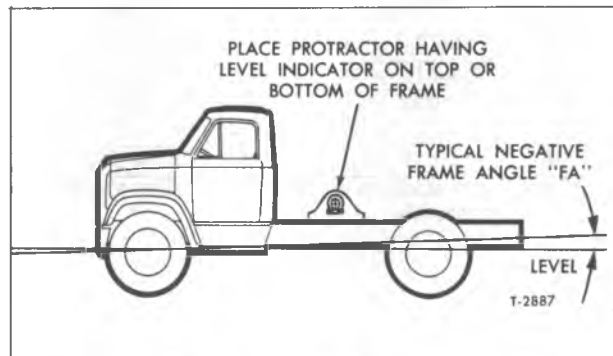

Figure 2—Method of Checking Frame Angle
**IMPORTANT:** Caster, camber, and toe-in dimensions are for vehicle carrying its design load whereby the frame in most instances would be level. If alignment check is to be made with frame NOT LEVEL the frame angle (fig. 2) must be determined and added to or subtracted from the caster angle to obtain a true caster reading.
frame angle (FA). See figure 2. Frame angle is the degree of tilt in the frame from the level position. Negative frame angle is when the frame is high (above level) in the rear. Positive frame angle is when the frame is low (below level) in the rear.
4. Add or subtract the frame angle (FA) found in step 2 to the left wheel caster reading found in step 3 to determine the "corrected caster" for left wheel.